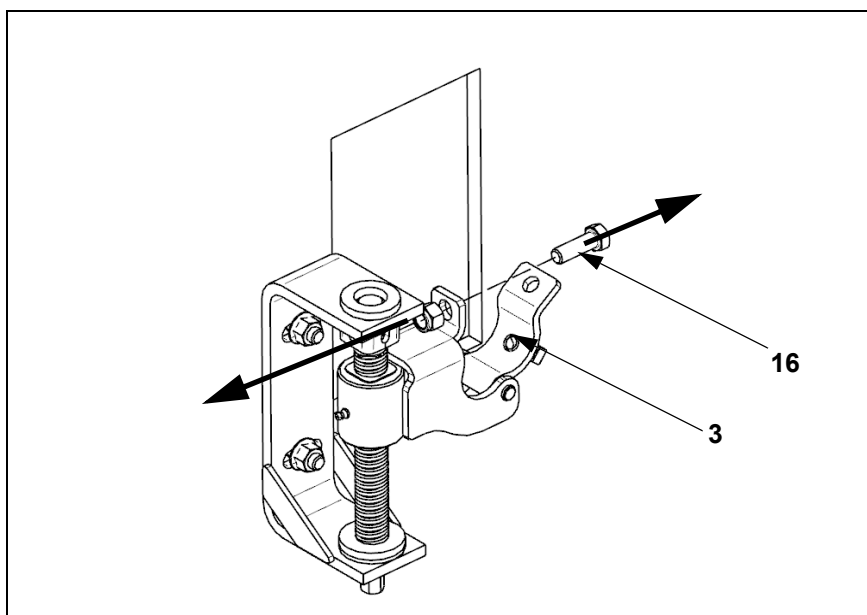

Fig. 11:
4. Remove the hexagon head screw (16, Fig.11) on the clamp (3, Fig. 11) and open the clamp.